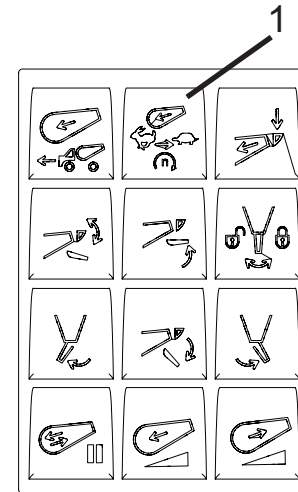

Figure 39
2. Press the MIX button on the optional in-cab keypad (Figure 39, Item 1). The button indicator will illuminate. The MIX icon will display on the drum control on the touch screen monitor.